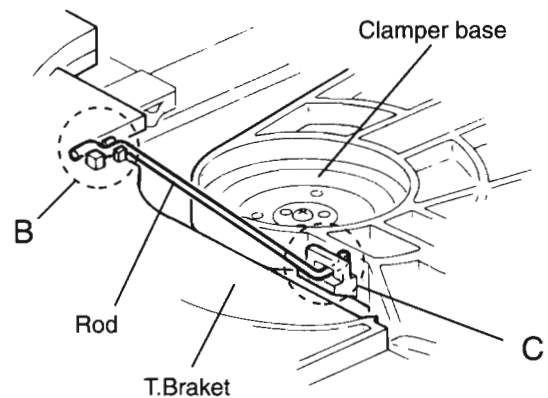
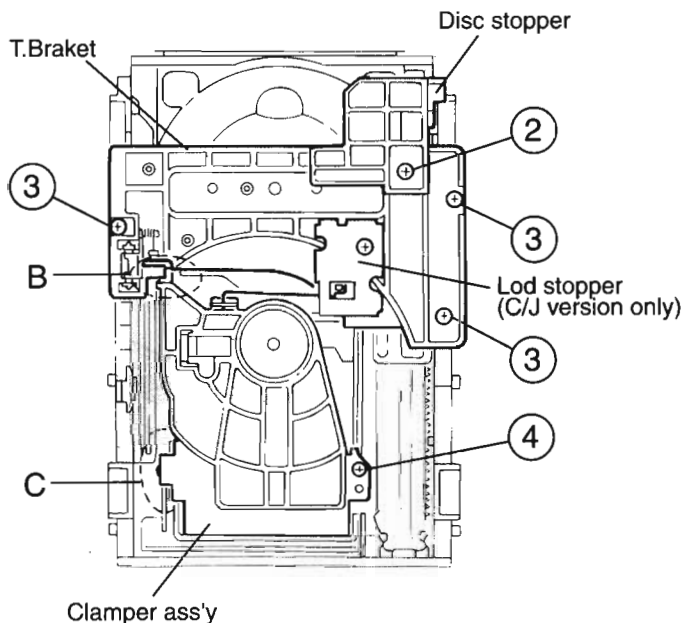

Fig.2
Fig.3
(See Fig.2~4)**
4. From the T.bracket section "B" and clamber base section "C", remove both of the edges fixing the rod(See Fig.2 and 3).
5. Remove the screw 2 retaining the Disc stopper (See Fig.3).
6. Remove the three screws 3 retaining the T.bracket (See Fig.3).
7. Remove the screws 4 retaining the clamber assembly (See Fig.3).
2. When the flywheel R is rotated in counterclockwise direction, the playback head will be turned in counterclockwise direction from the position in Fig 2 to that in Fig 3.